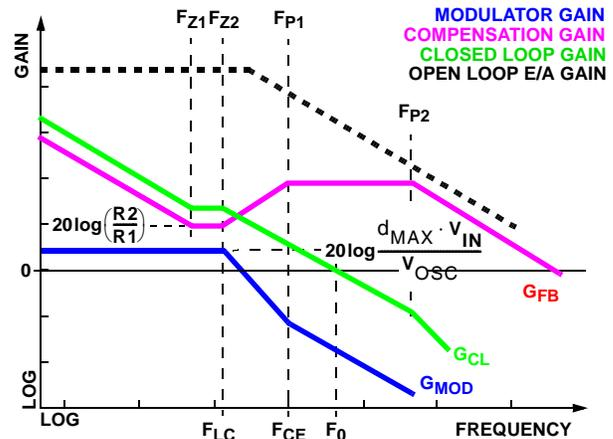

FIGURE 10. ASYMPTOTIC BODE PLOT OF CONVERTER GAIN
Figure 10 shows an asymptotic plot of the DC/DC converter's gain vs. frequency. The actual modulator gain has a high gain peak dependent on the quality factor (Q) of the output filter, which is not shown. Using the above guidelines should yield a compensation gain similar to the curve plotted. The open loop error amplifier gain bounds the compensation gain. Check the compensation gain at F_{P2} against the capabilities of the error amplifier. The closed loop gain, G_{CL} , is constructed on the log-log graph of Figure 10 by adding the modulator gain, G_{MOD} (in dB), to the feedback compensation gain, G_{FB} (in dB). This is equivalent to multiplying the modulator transfer function and the compensation transfer function and then plotting the resulting gain.